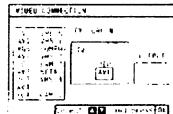

Fig. 52.
- 1 Select Video Connection with Δ + or ∇ - and press OK. The VIDEO CONNECTION menu appears. (See Fig. 52)